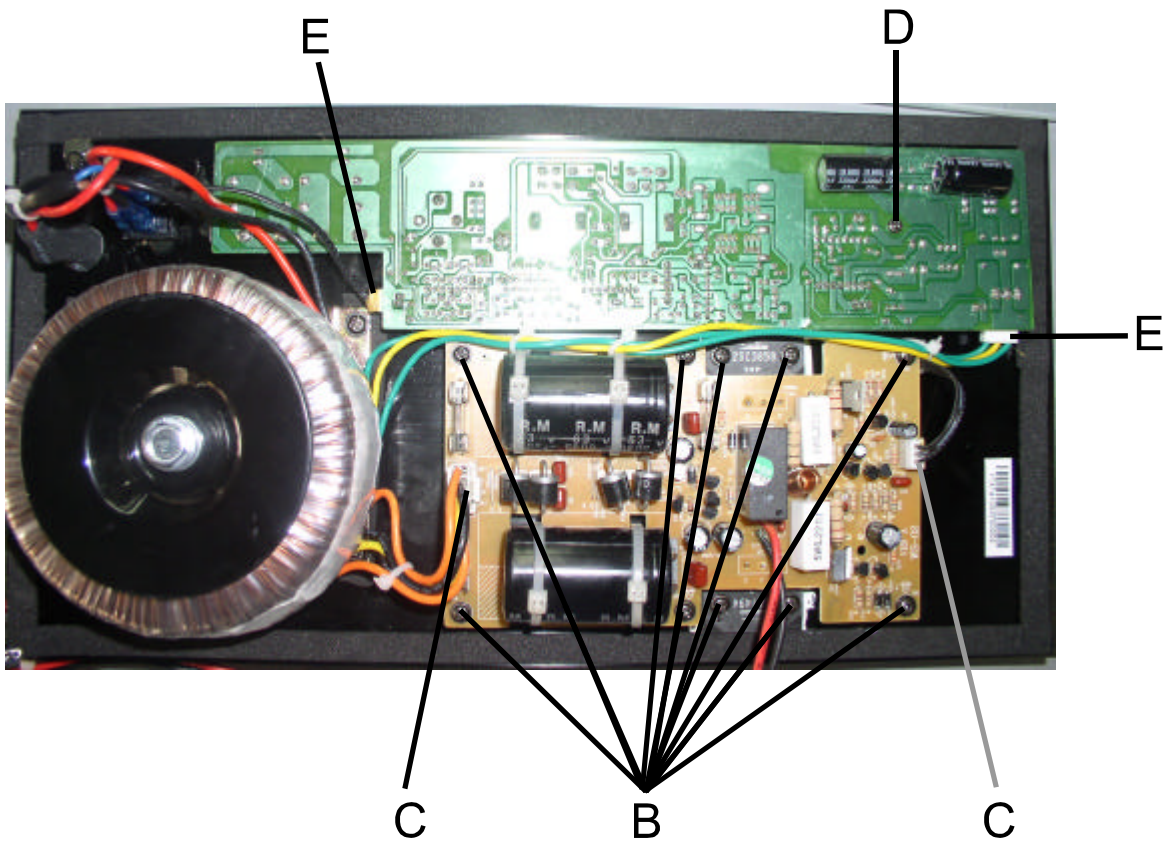

Fig.2
- Take away the 10 pcs screw B (fig.2);
- Pull down the terminal C (fig.2);
- Take away the 1 pc screw D (fig.2);
- Pull down the terminal E (fig.2);